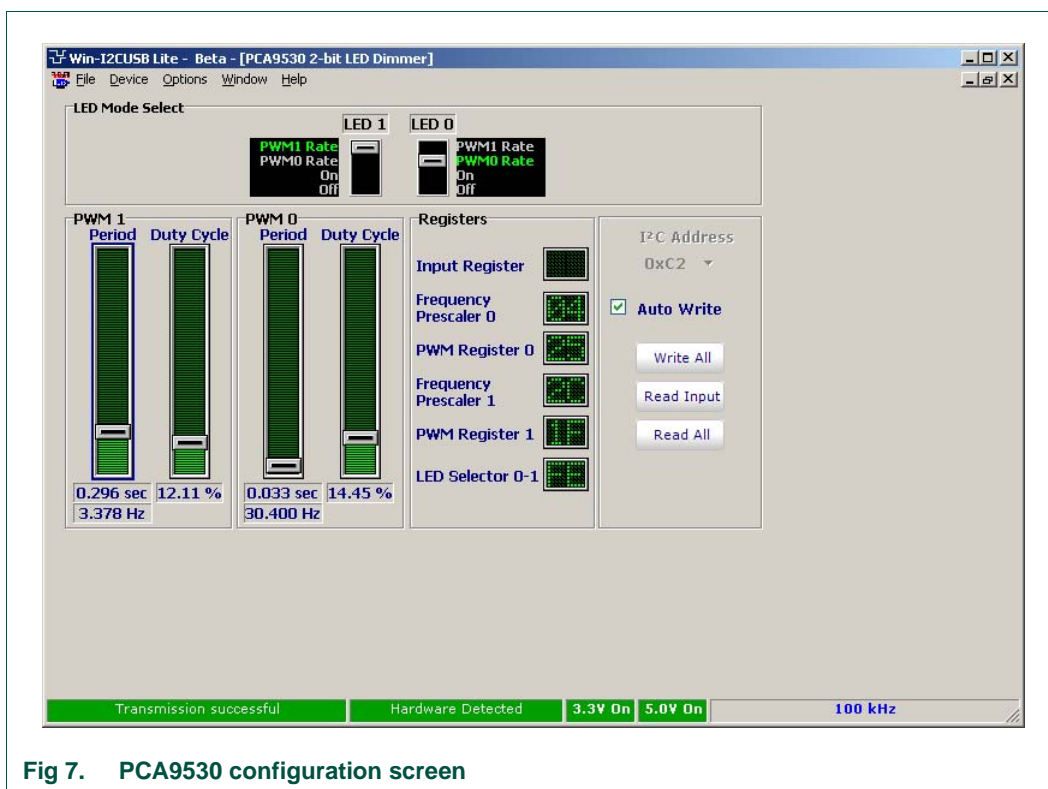

Fig 7. PCA9530 configuration screen
8. Go to the 'Device' selection tab and select the 'LED blinkers and Dimmers' to select the PCA9530. The configuration screen will appear. See Figure 7.